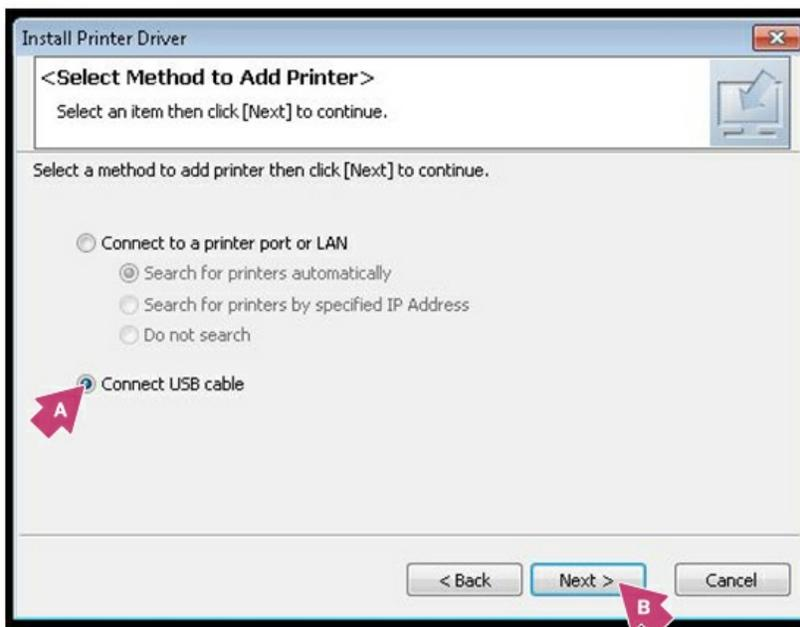

FIGURE 12
12. Select how the printer is connected to your computer and click **Next**. For this example we will select **Connect USB cable**. See Figure 12.